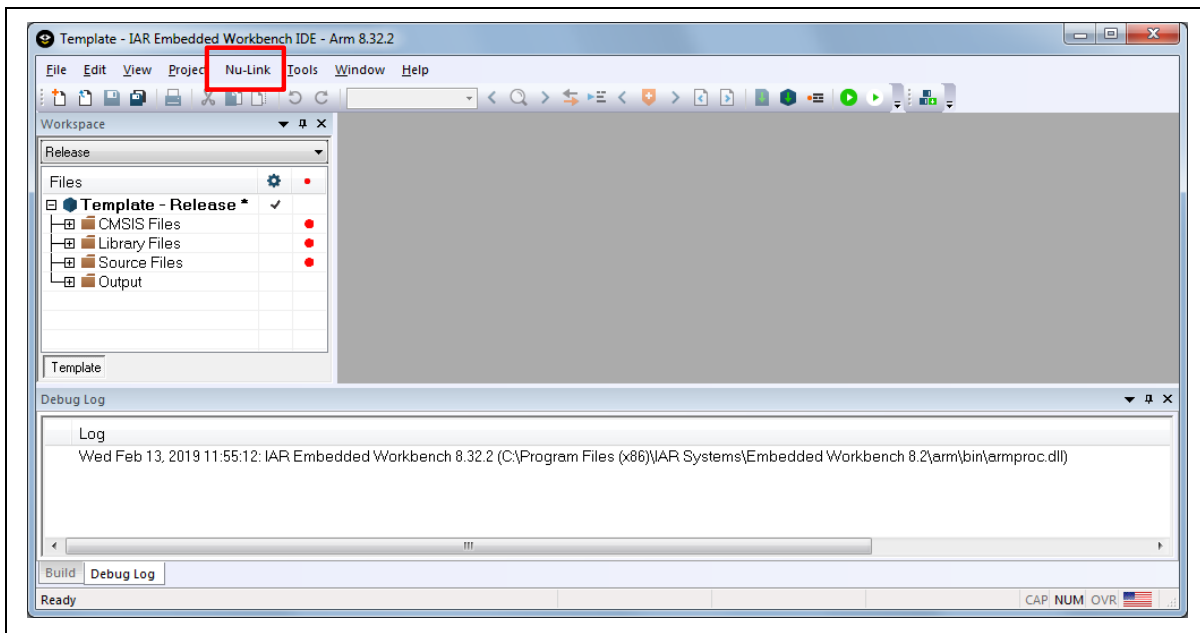

Figure 4-15 IAR EWARM Window
2. Make sure the toolbar contains “Nu-Link” item as shown in Figure 4-15.